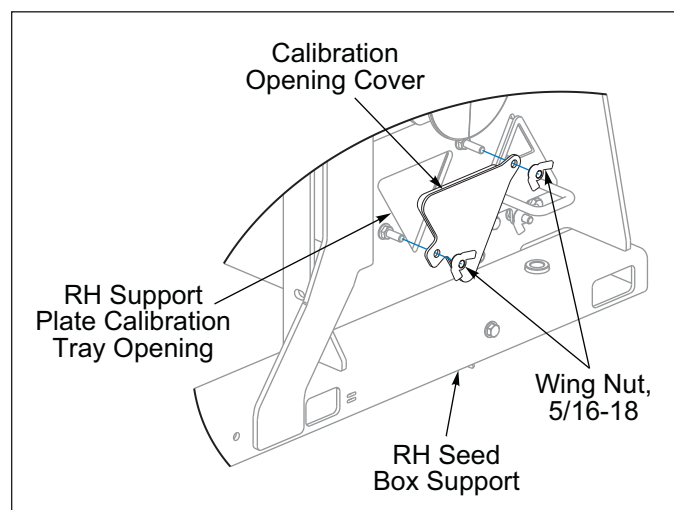
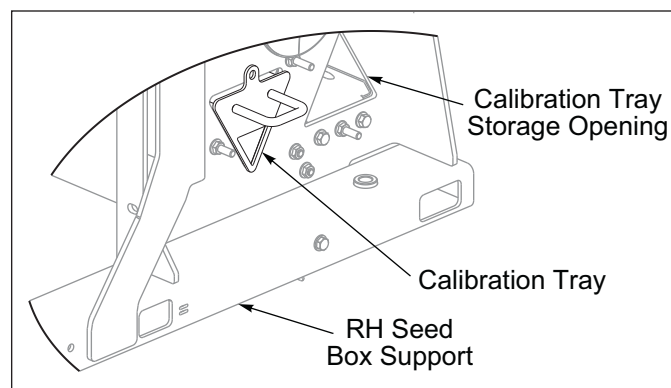

Figure 3-15: Calibration Opening Cover
Figure 3-16: Calibration Tray Collection Position
3. Place Calibration Tray in collection position to catch seed. Remove the 5/16-18 Wing Nuts that secure the Calibration Tray Cover over the opening in the RH Support Plate. **See Figure 3-15.** Remove the 5/16-18 Wing Nut that secures the Calibration Tray in the Storage position. Orient the Calibration Tray with Handle to the top and insert it into the RH Support opening. **See Figure 3-16.**